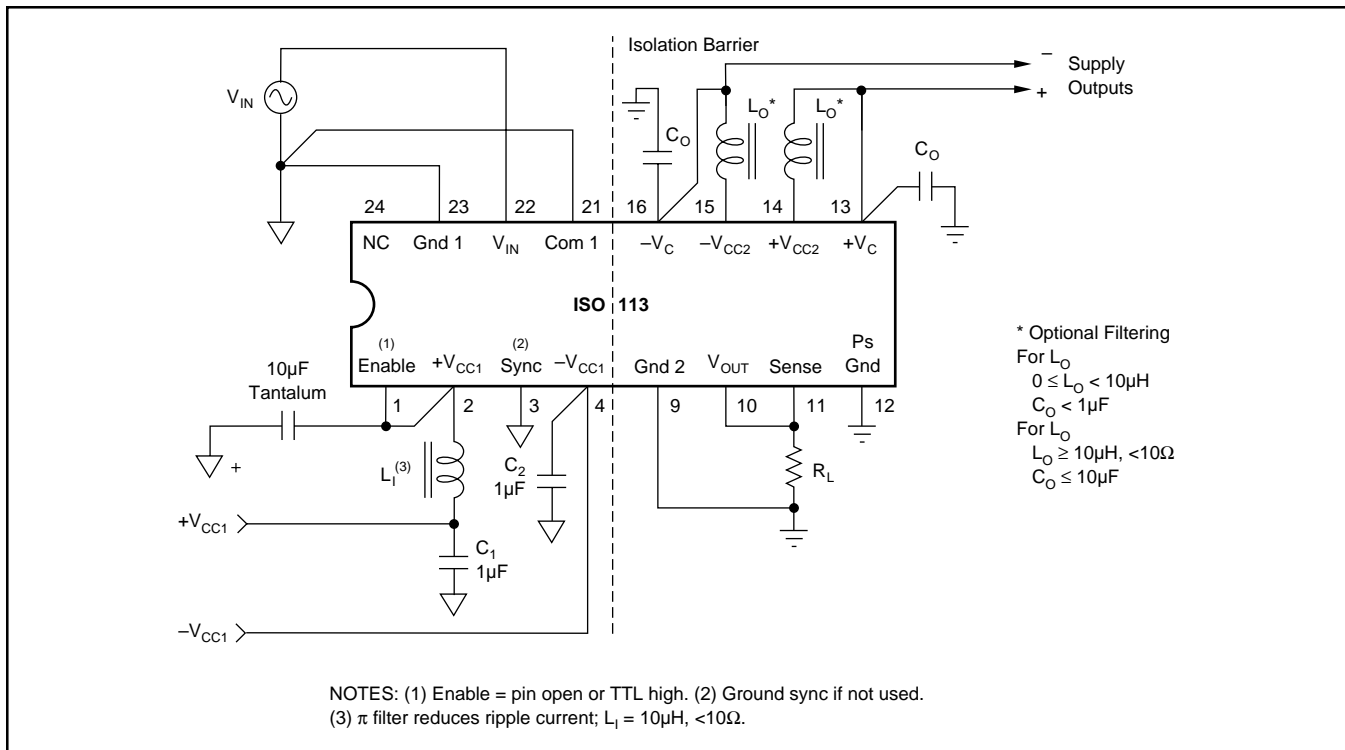

FIGURE 1. Signal and Power Connections.
Figure 1 shows the proper power supply and signal connections. All power supply pins should be bypassed as shown with the π filter for +VCC1, an option recommended if more than ±15mA are drawn from the isolated supply. Separate rectifier output pins (±VCC2) and amplifier supply input pins (±VC) allow additional ripple filtering and/or regulation. The separate input common pin and output sense are low current inputs tied to the signal source ground, and output load, respectively, to minimize errors due to IR drop in long conductors. Otherwise, connect Com 1 to Gnd 1, and Sense to VOUT at the ISO113 socket. The enable pin may be left open if the ISO113 is continuously operated. If not, a TTL low level will disable the internal DC/DC converter. The Sync input must be grounded for unsynchronized operation while a 1.2MHz to 2MHz TTL clock signal provides synchronization of multiple units.
NOTES: (1) PWS750-1 can sync > 20 ISO113s. (2) Bypass supplies as shown in Figure 1.